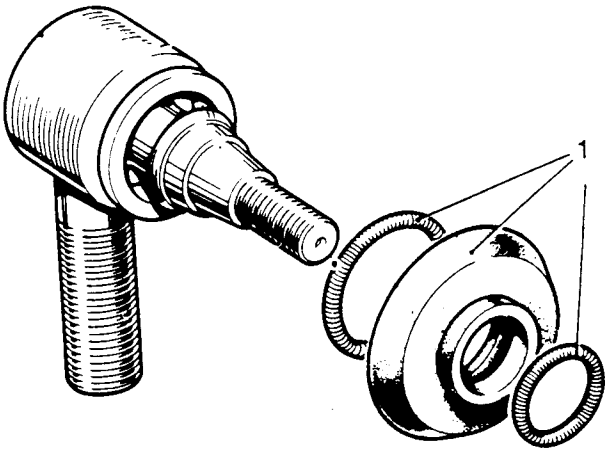

Fig L5.18
- (2) Refer to Fig L5.18. Remove the rubber cover and spring rings (1).
(3) Thoroughly clean all parts.